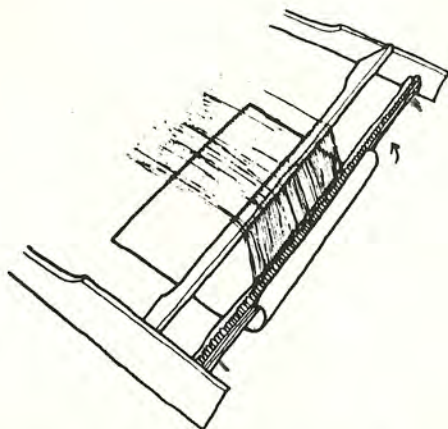

fig. 9
4. Wind warp onto the warp beam with heavy paper wound between the layers to maintain an even tension (fig. 9). To do this, insert the edge of the paper under warp loops. Release the pawl on the warp beam, and rotate the beam one full turn, stop, engage the pawls and pull back on the warp ends to tighten them. Shake out any tangles in the yarn with a whipping motion. Repeat this winding and tightening process until the end of the warp is 8 inches in front of the cloth beam.